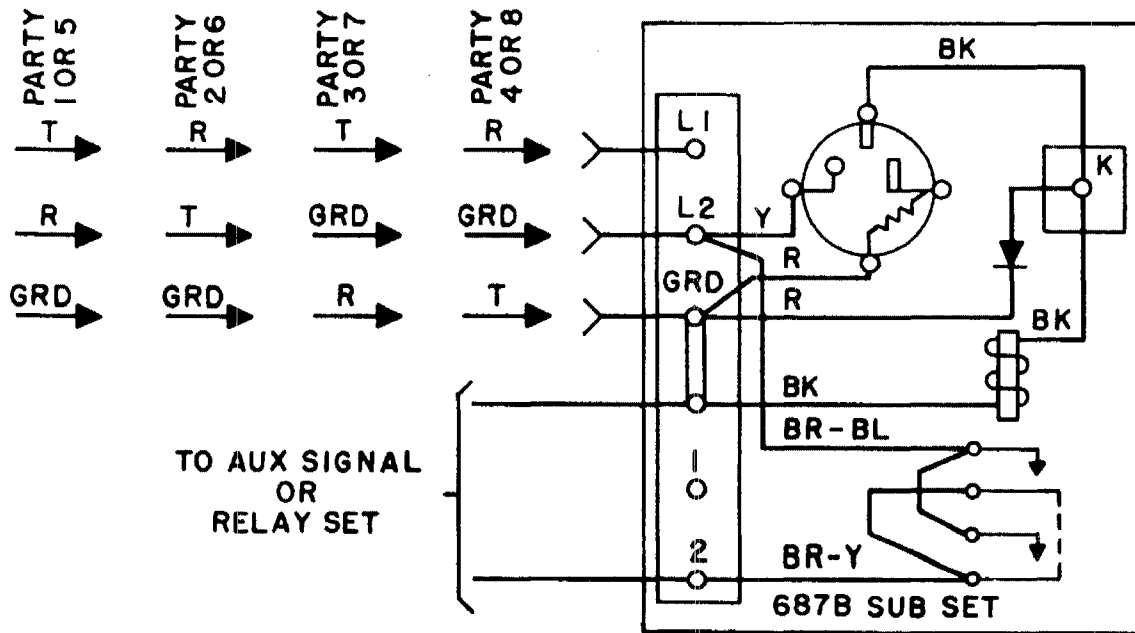

Fig. 6 - Auxiliary Signals on Party Lines
2.06 Auxiliary signals may be installed on 4-party full selective or 8-party semiselective lines by connecting a 531C or 687B subscriber set as shown in Fig. 6.